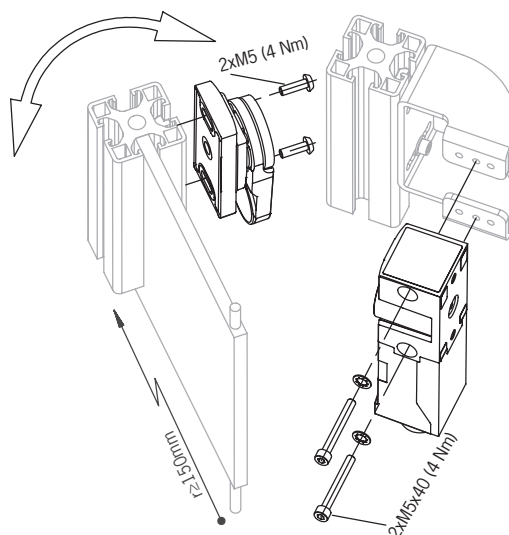

Figure 2: Installation example
- › Observe the min. door radii (see *Figure 2: Installation example on page 10*).